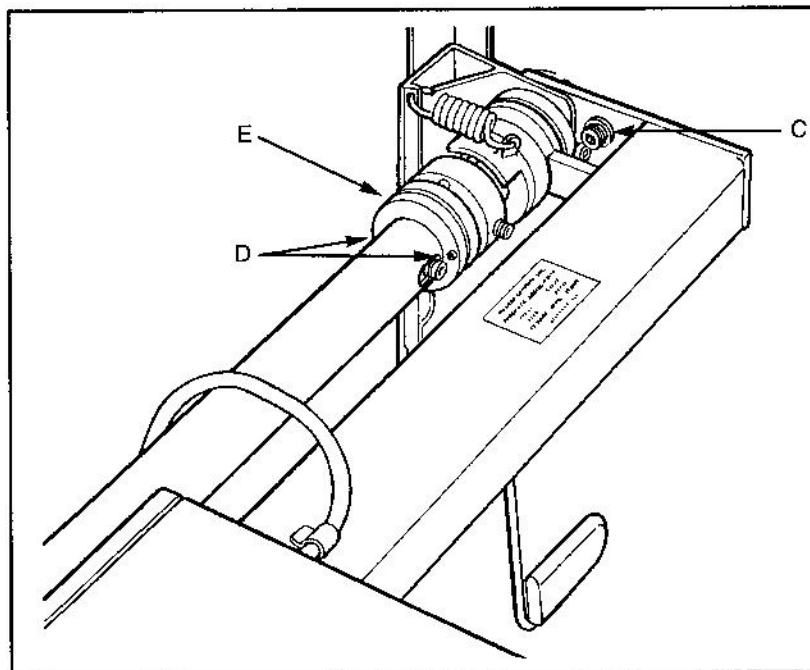

Fig 9. Adjusting the Tilt, cont.
5. To prevent a full vertical tilt position (recommended on the larger tablets) adjust the eccentric stop "C" on the tablet base. Eccentric stop "C", (See Figure 9) can be adjusted by loosening the cap screw from the other side of the bracket support, rotating the stop and retightening the cap screw. The widest part of the stop should be toward the protruding nut on the pivot.